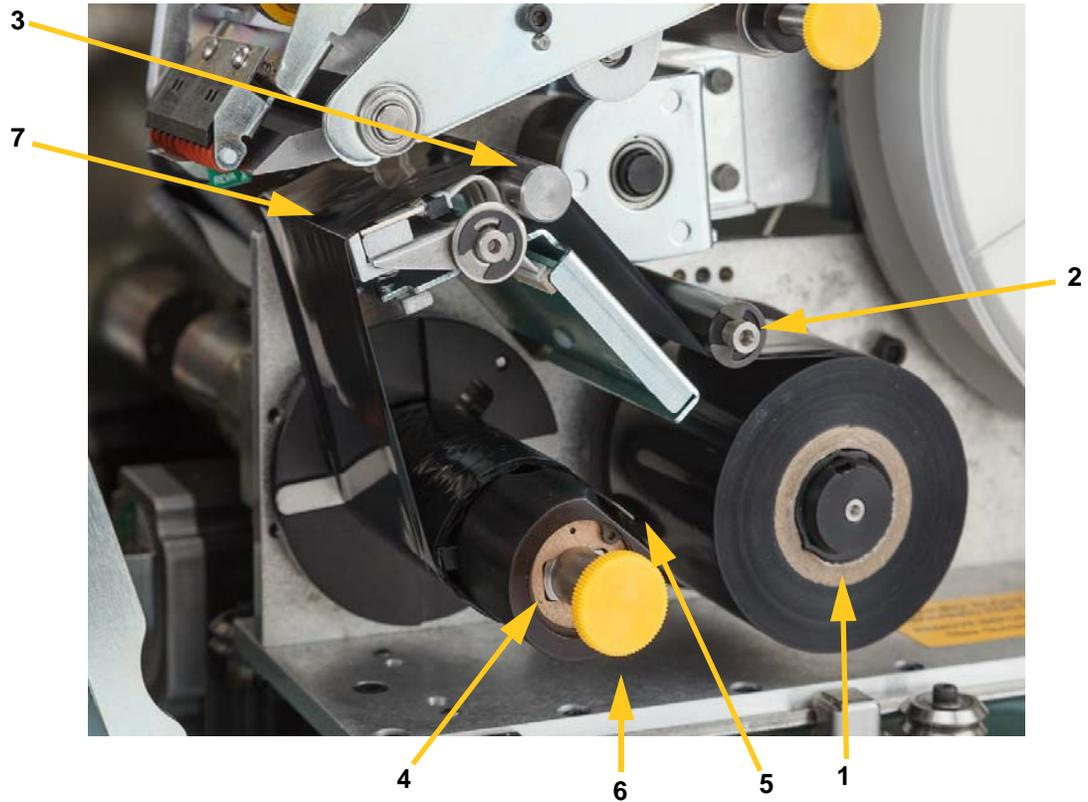

Figure 4-4. Ribbon Path Parts
5. Thread the ribbon under the guide roller and over the guide bar and printhead. See Figure 4-4 on page 23.
6. Feed ribbon under the clip (A) as shown until approximately 1 inch (25.4 mm) of ribbon is past the clip.
7. Turn the take-up spool knob (B) counter-clockwise until the ribbon is fed around the take-up spool several times to ensure that it won't unravel.